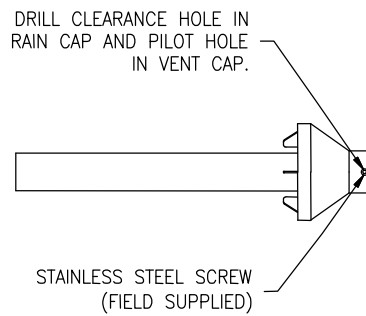

Figure 21. Rain Cap to Small Vent Pipe Assembly
- b. Cement rain cap to smaller diameter pipe. (See Figure 21).
- b. Cement rain cap to smaller diameter kit pipe. (See Figure 21).